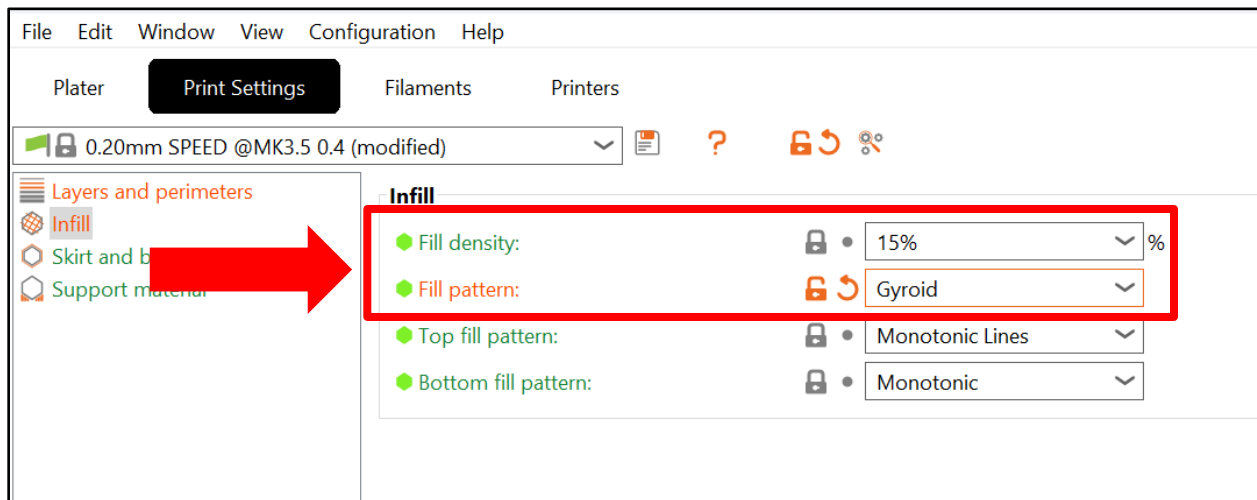

Figure 4. Adjusted Infill Settings.
6.) Go back to the “Plater” tab in the top left corner of PrusaSlicer. Then click the “Print settings” drop-down menu and select the 0.20mm SPEED (modified) option (see red arrow in Figure 4).
- 7.) Open the Filament drop-down menu (see **blue** arrow in Figure 4) and select the filament type you want to print in.
- 8.) Open the Printer drop-down menu (see **green** arrow in Figure 4) and select your printer make and model.